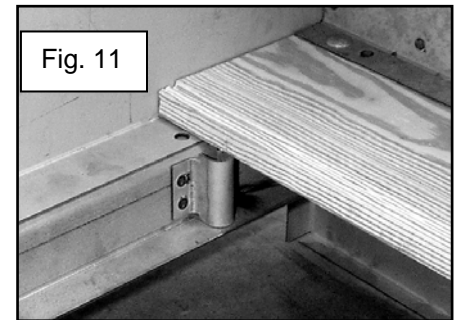

Fig. 9
10. Remove these two boards and drill all holes marked using a 3/8" wood bit. See figure 9. Be careful not to splinter the other side of the board when drilling. Placing a wood block behind the board where drilling will help prevent this.